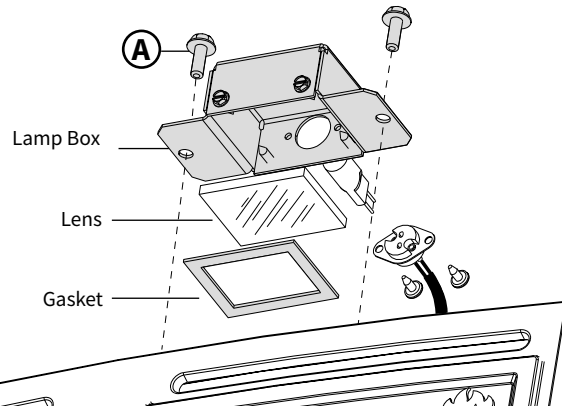

Figure 12.2. Accent Lamp installation.
2. Remove the two flanged hex head bolts (A) and cover plate from the Relief Panel using a 10 mm socket or wrench. See fig. .
3. Position the Gasket, Lens, and Lamp Box over the opening on the Relief Panel using the two bolts (A) previously removed.
4. Route the controls wire harness over and down between the back of the firebox and the rear shroud. **USE CARE TO AVOID CRIMPING THE WIRE HARNESS BETWEEN THE FIREBOX AND THE TOP CONVECTION SHROUD.** Connect the harness to the ( L ) terminal on the rear of IFC board. See figs. 12.2 - 12.3. *Loosen the IFC board wing nut and pull the board back to improve access to the terminal.*